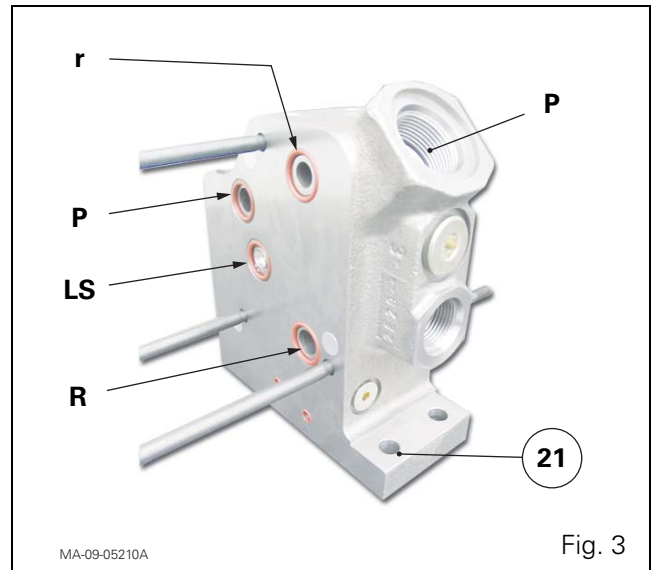

Fig. 3
... on the manifold (21) (Fig. 3)